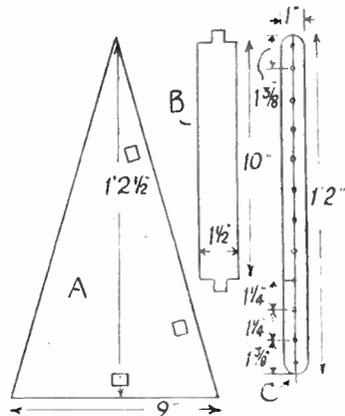

Fig. 1—Framework details
It is of simple construction. The necessary parts of the frame are shown in Fig. 1, and can be made from any available wood, a convenient thickness being $\frac{1}{2}$ in. The sides (A) can be drawn out direct to the wood, being simple triangles.